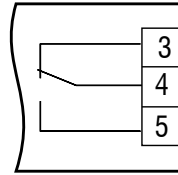

Fig. 5.2 Relay output
- The outputs should be wired in accordance with Fig. 5.2...5.8